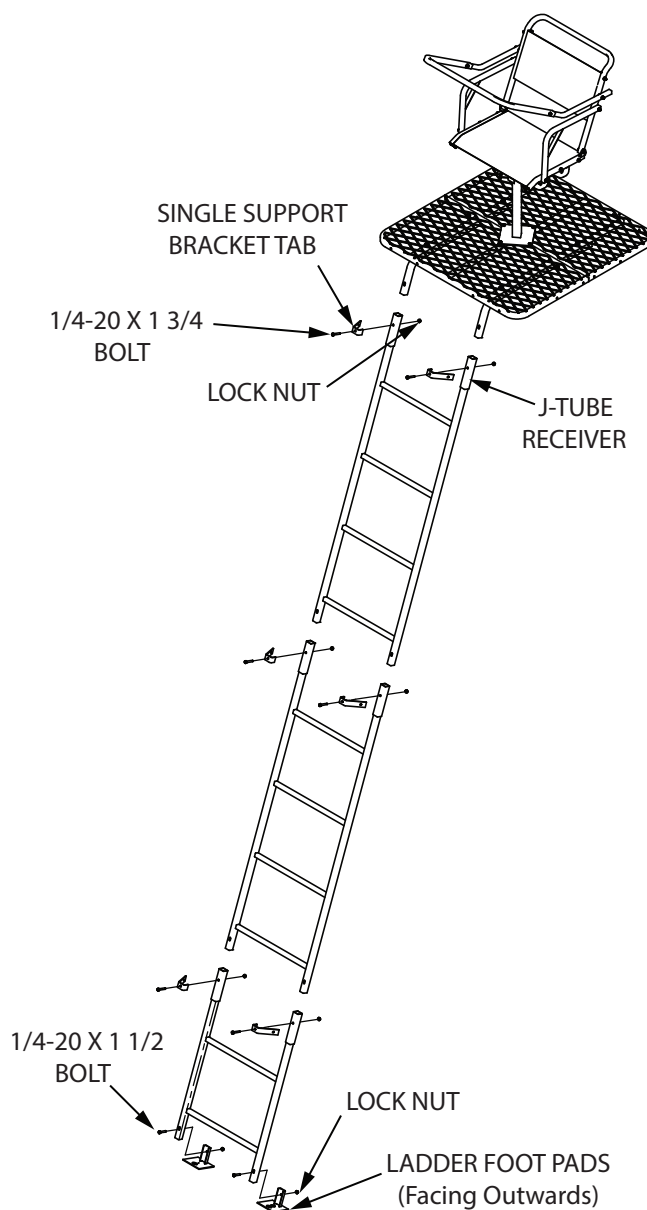

FIGURE 9
13. Attach the ladder foot pads (TP113) to the bottom (short) ladder (TP159) using (2) provided 1/4-20 x 1-1/2" bolts and locknuts. This step now makes this the bottom ladder section. **SEE FIGURE 9**
15. Attach single support brace tabs (TP115) to each joint location of ladder assembly (6 total locations) and secure those locations using (6) provided 1/4-20 x 1-3/4" bolts and locknuts. **SEE FIGURE 9**